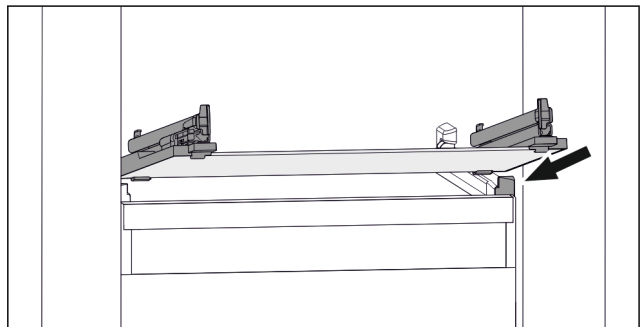

Fig. 111 Example illustration of glass shelf
- ▶ Position glass shelf at an angle behind the stoppers. (see Fig. 111)